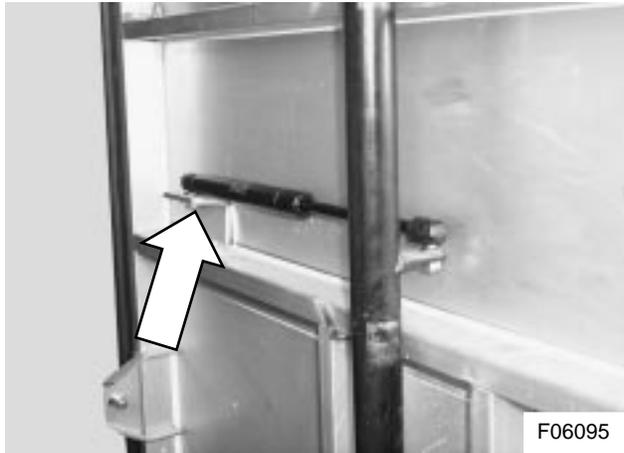

Figure 41: Gas strut installation
1) Undo the gas strut ball joint nut, securing the strut to the doorframe (see Figure 41).